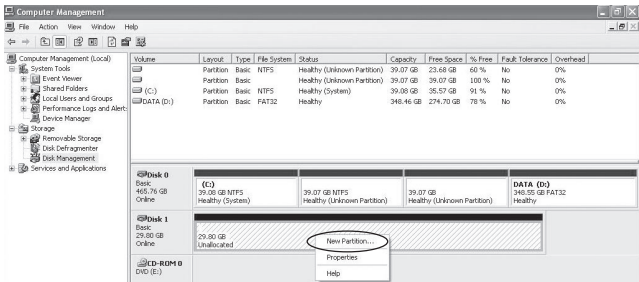

Figure 7
4. Right click on the **Unallocated** box and select **New Simple Volume** or **New Partition**, see **Figure 7** in the next page.